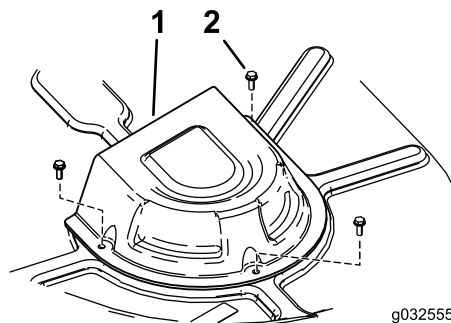

Figure 59
- Remove the pulley covers (Figure 59).
- Install the pulley covers (Figure 59).